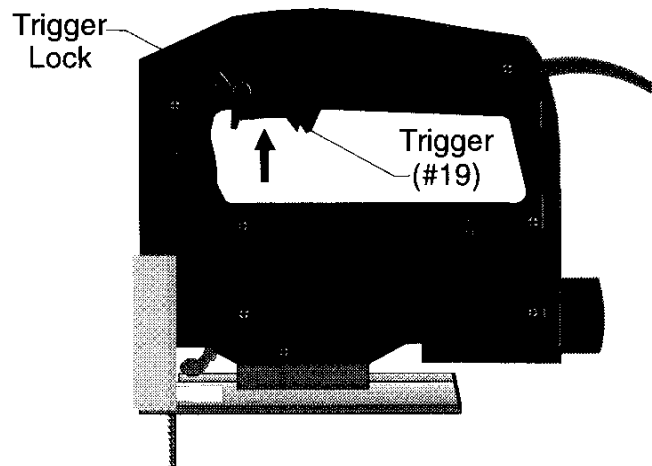

Figure 6 -- Using the Trigger Lock
Step 4: Once the TRIGGER is depressed, you may press the Trigger Lock and release the TRIGGER to lock the Jigsaw in the on position as shown in Figure 6.